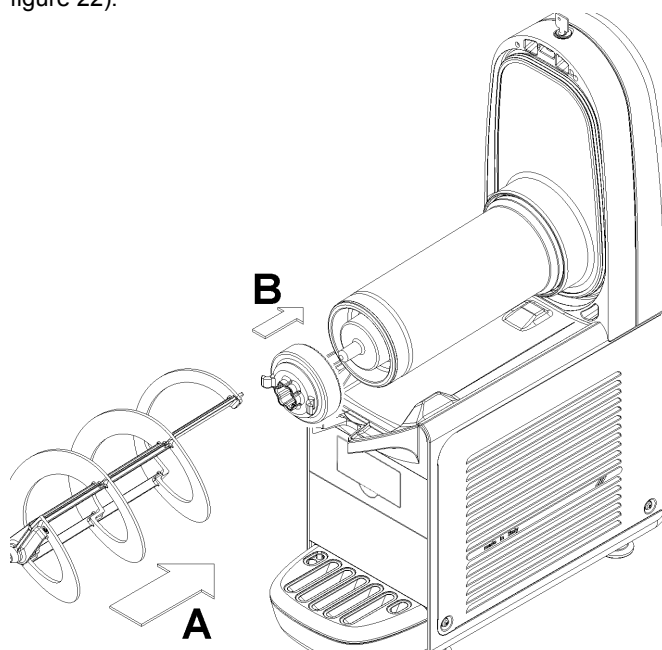

figure 22
- 5 Reassemble the hexagonal joint and then the mixer (see figure 22).